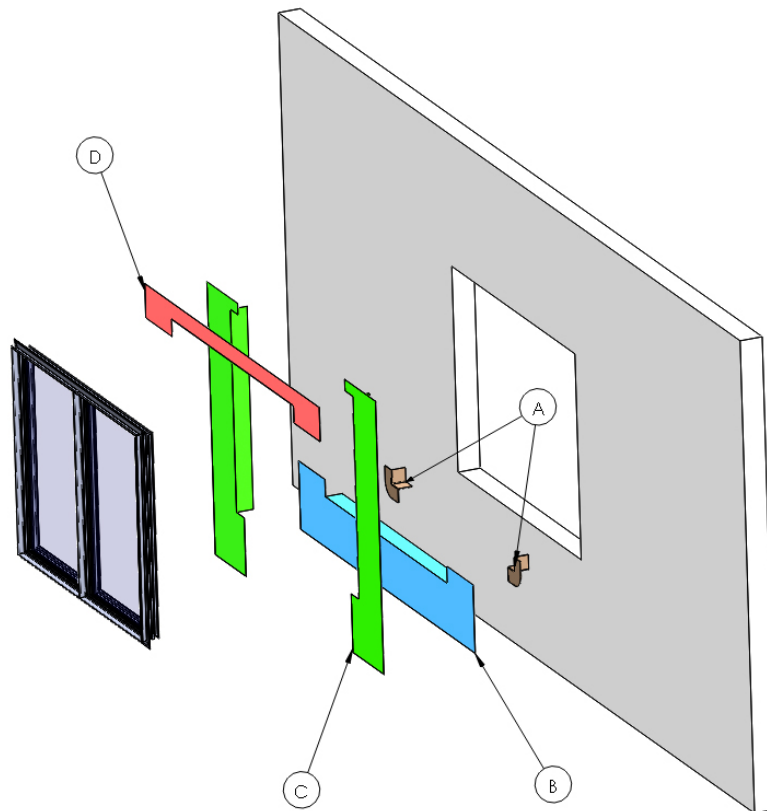

Figure 1
2. Prepare rough opening as shown in Figure 1 and using steps A through D.